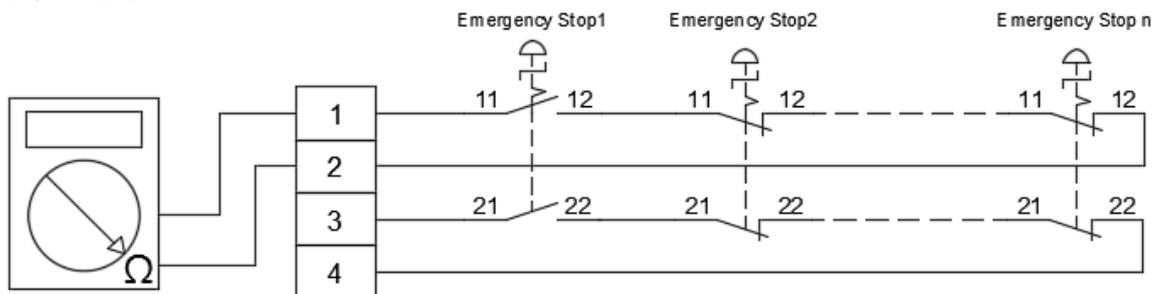

Figure 8.17 Press the emergency stop signal and measure Pin 1 and Pin 2
6. Measure Pin 1 and Pin 2 of the safety connector; the reading on the multimeter must be ∞ , as shown in Figure 8.17 below.